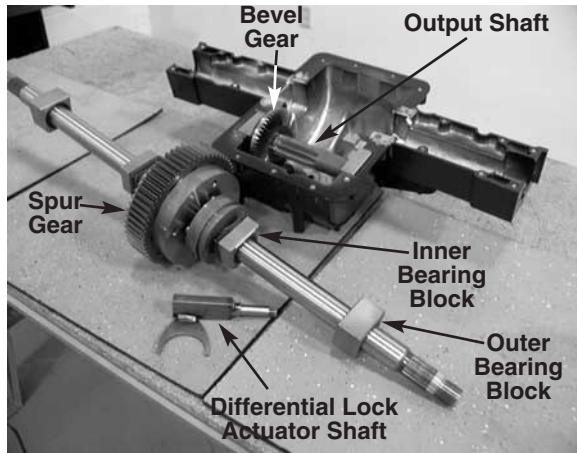

FIGURE 12.
30. Inspect the outer and inner bearing block assemblies for any damage. See figure 12.
- NOTE:** Not all models are equipped with the differential lock out feature. See figure 12.